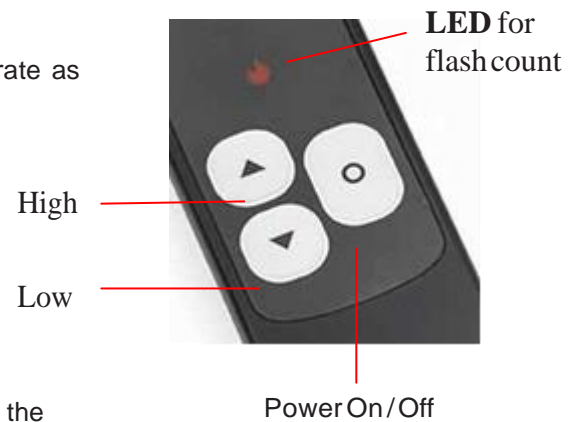

Figure 8.1
**1. Normal Remote Operation** – Figure 8.1